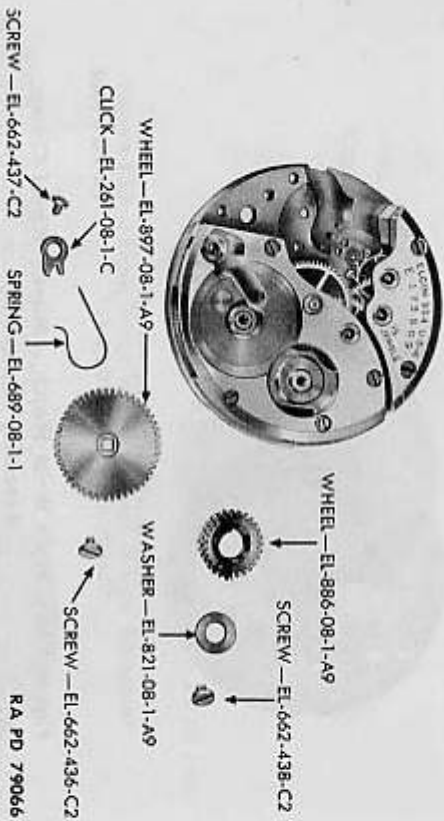

Figure 138 — Elgin Wrist Watch — Winding Wheels and Click Assembly Removed
k. Remove Winding Wheels and Click (fig. 138). Remove crown wheel screw by turning it clockwise; remove crown wheel washer and crown wheel. Remove ratchet wheel screw and ratchet wheel. Remove click screw, click, and click spring.
e. Replace Winding Wheels and Click (fig. 138). Replace crown wheel and washer; replace crown wheel screw and secure. Replace click spring in its recess in the barrel bridge. Replace click on its stud and secure in place with the click screw. Replace ratchet wheel, fitting it on the square of the mainspring arbor, and secure with ratchet wheel screw.